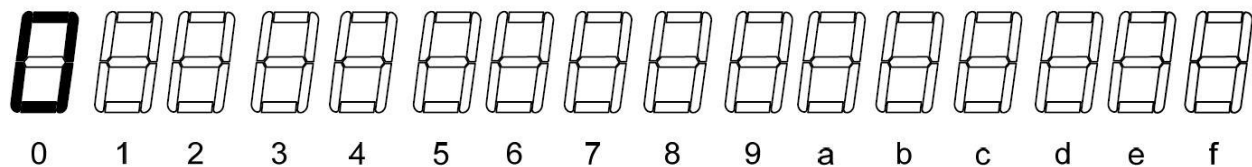
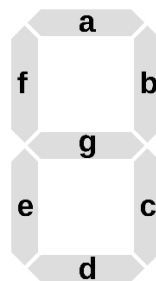

Figure 3.2: Displaying hexadecimal numbers on a seven-segment display
Figure 3.3: Seven-segment display segments labeled
2. Fill out Figure 3.2, which shows how each number 0-F will be displayed on the seven-segment display.
Figure 3.2 shows all of the different outputs that the seven-segment decoder should produce. Shade in the segments that should be on for each input, 0-F. You can use figure 2.48 from the textbook to help complete all Hexadecimal characters 0-F. For the letters, A-F use upper case letters except for B and D.
Use the shading in Figure 3.2 and the diagram in Figure 3.3 to fill in the functional truth table below. You may find it useful to use Table 2.6 from the textbook to reflect the figures created using active low hardware.
1. Figure 3.2 filled out